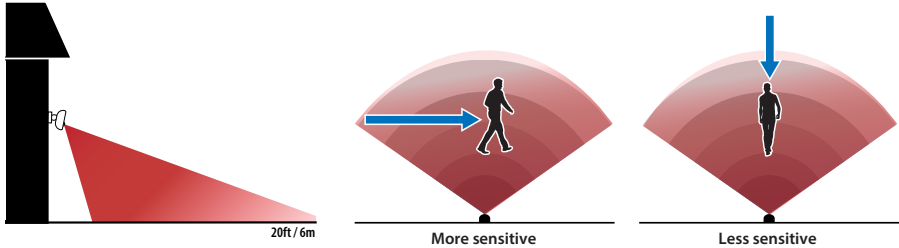

Figure 5
- For optimal coverage, mount the spotlight approximately 2 meters/6.5 ft above the ground, pointing slightly downwards at an angle where the most likely approach path of visitors and vehicles is across the front of the spotlight. Motion detection is less effective when movement is directly towards or away from the front of the spotlight (see **Figure 5**).